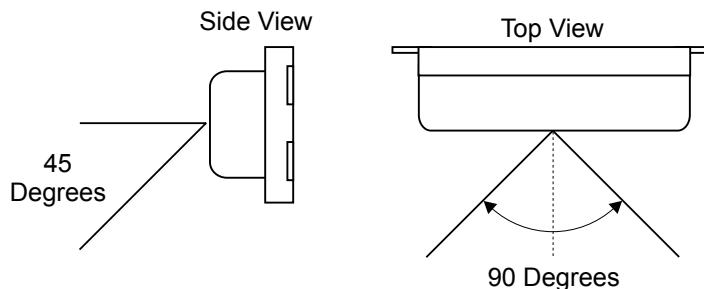

Figure 2-12: Genesis II DDC Optimum Display Viewing Angle
- Placement of the Genesis II Direct Digital Controller should take into account the **optimum viewing angle** of the Liquid Crystal Display (LCD), which is approximately 45° vertically and 90° horizontally (see Figure 2-12).